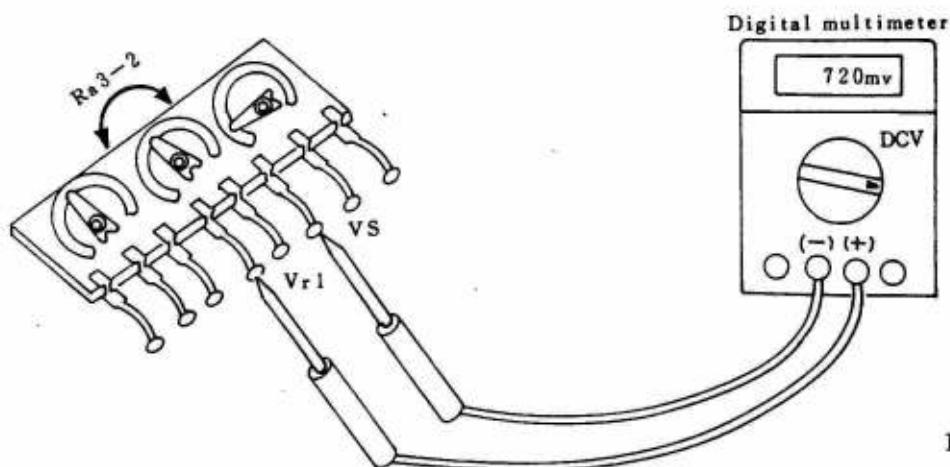

Fig 58
- ② Connect (+) of digital multimeter to V_{r1} , (-) of digital multimeter to V_s , and then read the voltage. See (Fig 58)